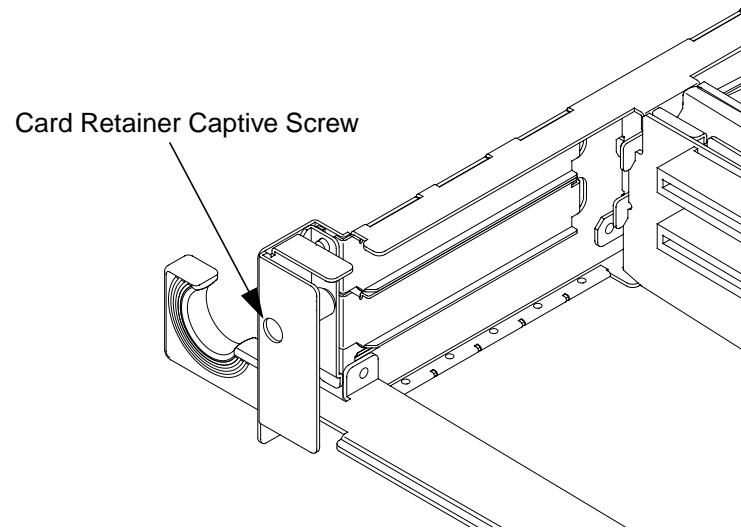
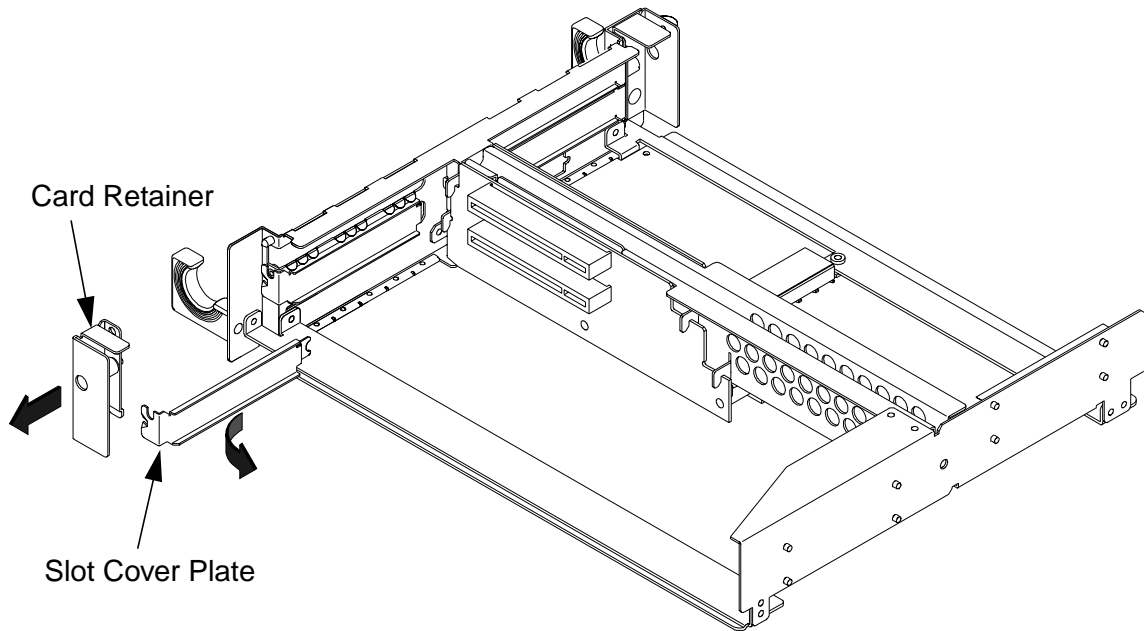

Figure 2
Figure 3 **Removing the Card Retainer and Slot Cover Plate**
Loosen the card retainer captive screw (see Figure 2) for the appropriate slot, and then remove the card retainer, as shown in Figure 3.
- 6** Remove the slot cover plate by pulling it out of the PCI module, as shown in Figure 3.